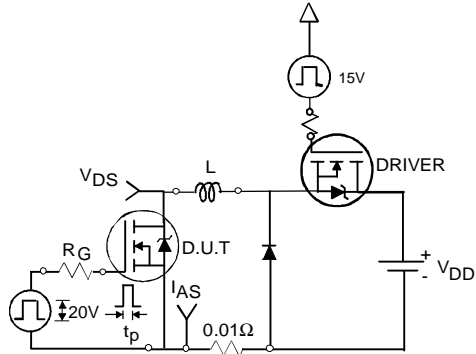

Fig 12a. Unclamped Inductive Test Circuit
- ④ Pulse width ≤ 400μs; duty cycle ≤ 2%.
- ⑤ C_{oss eff.} is a fixed capacitance that gives the same charging time as C_{oss} while V_{DS} is rising from 0 to 80% V_{DS}.
- ⑥ Calculated continuous current based on maximum allowable junction temperature. Package limitation current is 90A.
- ⑦ Limited by T_{Jmax}, see Fig.12a, 12b, 15, 16 for typical repetitive avalanche performance.
3. Equation below based on circuit and waveforms shown in Figures 12a, 12b.